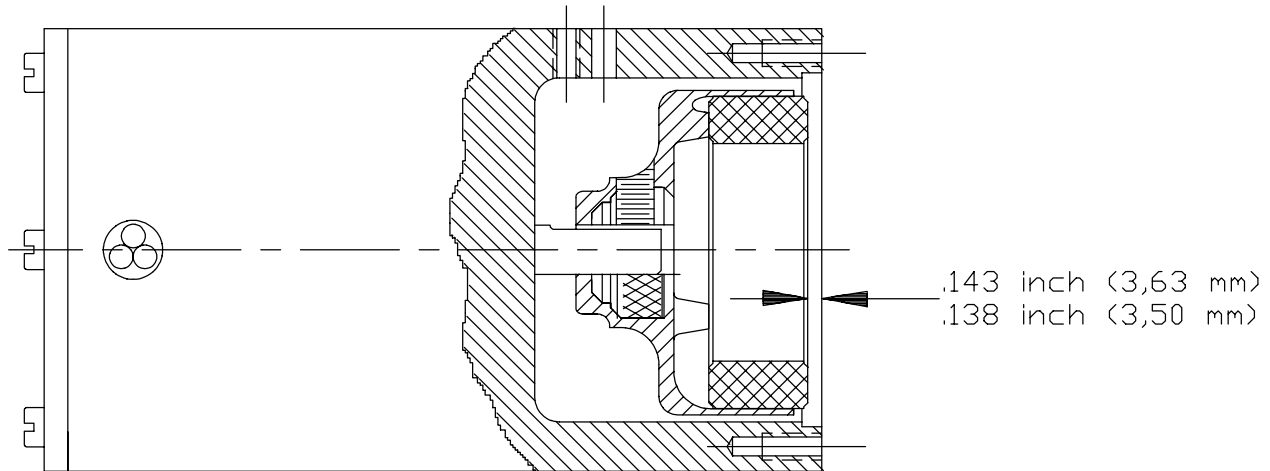

Figure 7
2.9.4 Install drive magnet (8) on rotor shaft so that setscrew (7) aligns with flat portion of shaft. Set Drive Magnet (8) to axial dimensions shown in Figure 7, and tighten setscrew (7) with 3/32 in. (2.381 mm) hex key.